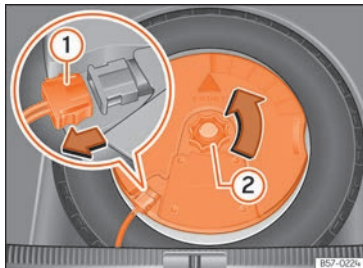

Fig. 280 In the luggage compartment: remove the subwoofer.
- Disconnect the subwoofer »» Fig. 280 ① speaker cable.
- Turn the securing wheel in an anti-clockwise direction »» Fig. 280 ②.